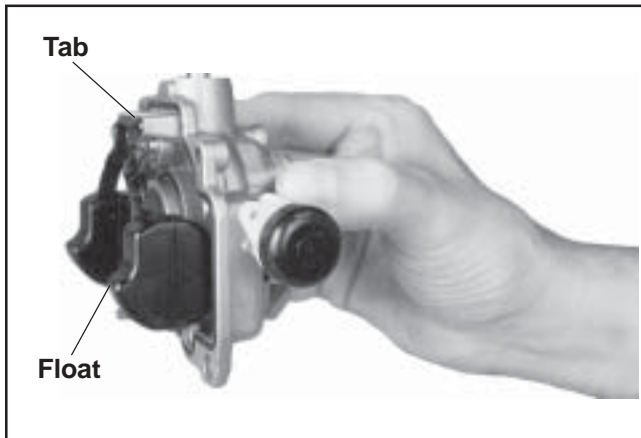

Figure 5-10. Carburetor Float Adjustment.
5. Hold the carburetor upper body so that the float assembly hangs vertically and rests lightly against the fuel inlet needle. The fuel inlet needle should be fully seated, but the needle tip should not be depressed. See Figure 5-10.